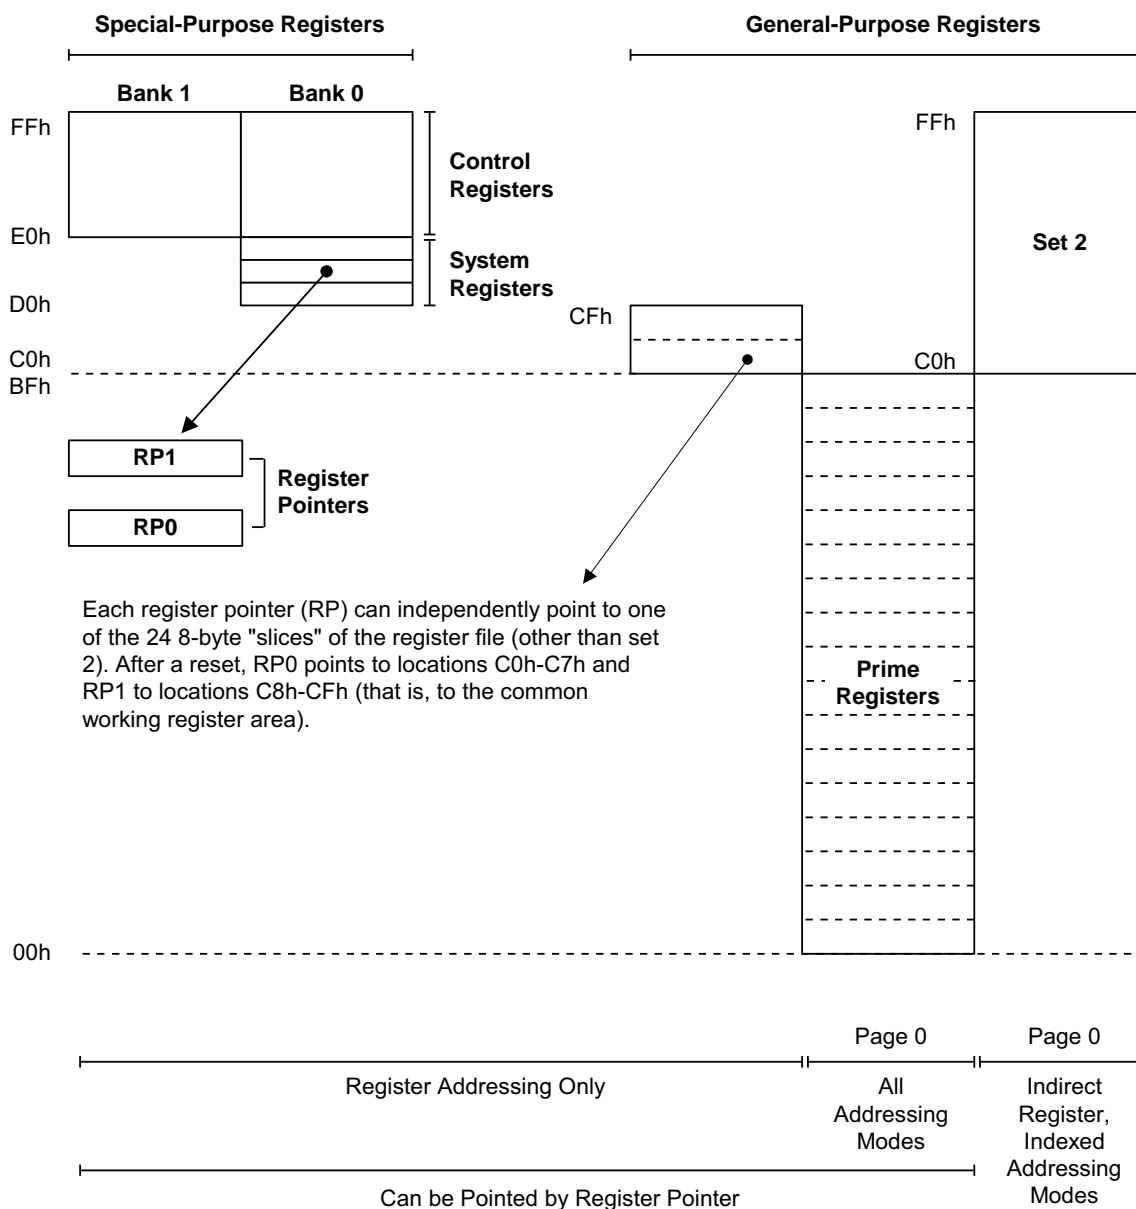

Figure 21. Register File Addressing
► **Note:** As shown in Figure 21, only Page 0 is implemented in the S3F80PB microcontroller. Page 0 contains all of the addressable registers in the internal register file.